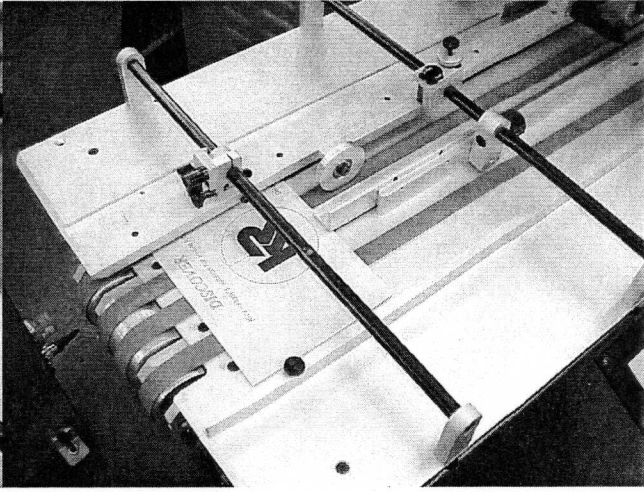
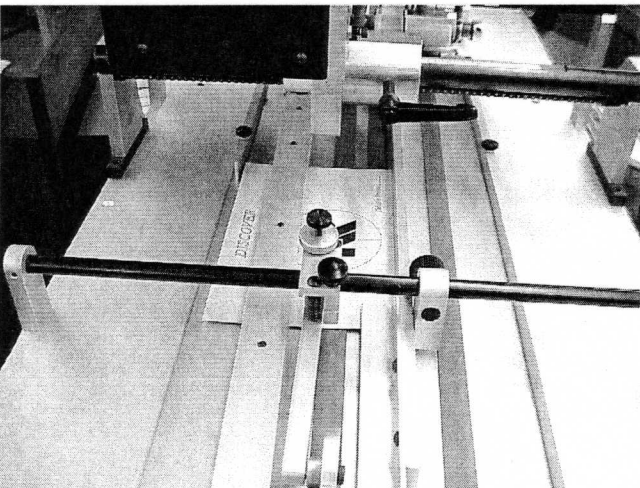

Figure 8
Figure 11
6. Product will flow as seen in **Figure 8** through **Figure 11**.